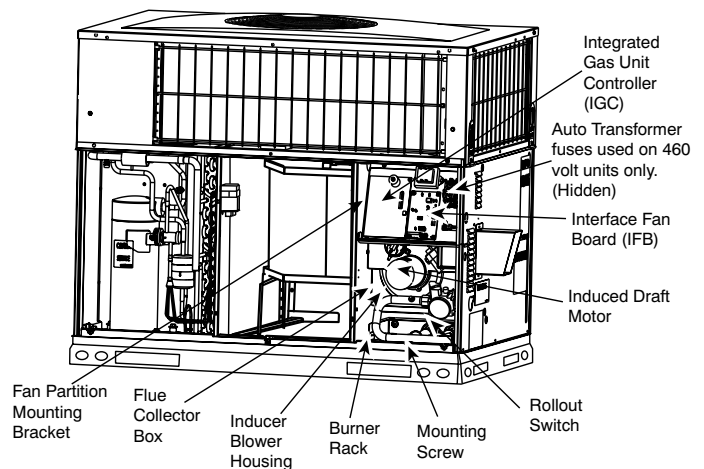
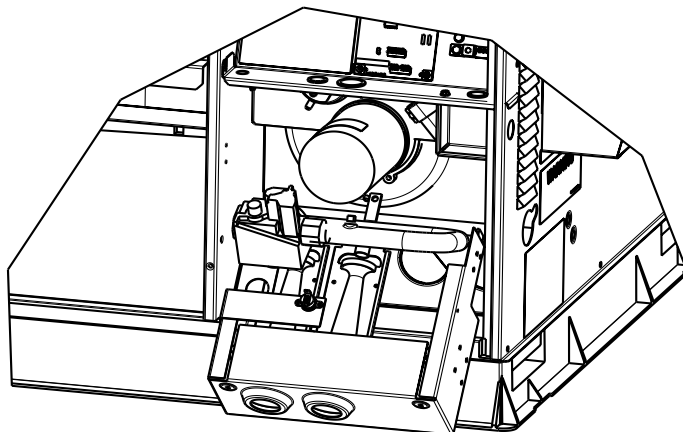

Fig. 17 – Blower Housing and Flue Collector Box
Fig. 20 – Burner Rack Removed
3. Slide the assembly out of the unit. (See Fig. 20). Clean the blower wheel. If additional cleaning is required, continue with Steps 4 and 5.
2. Remove the 11 screws holding the flue collector box cover (See Fig. 17) to the heat exchanger assembly. Inspect the heat exchangers.
Unit is equipped with a direct spark ignition 100 percent lockout system. Ignition module (IGC) is located in the control box (See Fig. 17). Module contains a self-diagnostic LED. During servicing, refer to label diagram or Table 6 in these instructions for LED interpretation.
5. Remove fan partition mounting bracket (2 screws located on the left side of control compartment on the fan partition panel). Slide bracket forward, bottom first, to remove. (See Fig. 17.)
7. Remove the mounting screw that attaches the burner rack to the unit base (See Fig. 17).
8. Partially slide the burner rack out of the unit (see Fig. 17 and Fig. 20). Remove ignitor and sensor wires at the burner assembly. Remove wires to rollout switch.
9. Slide the burner rack out of the unit (See Fig. 17 and Fig. 20).